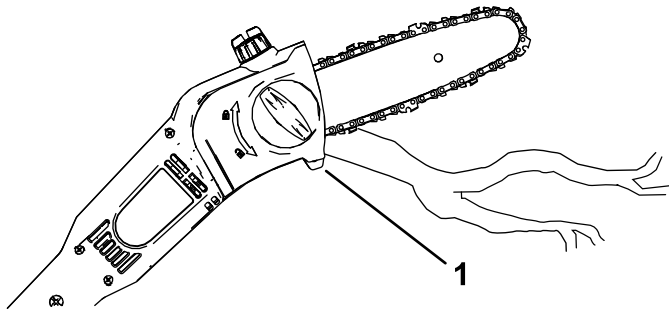

Figure 11
5. Cut with the branch near the rear of the guide bar, close to the cutting guide; press the saw chain lightly against the wood and allow the weight of the pole saw to drive the cutting (Figure 11).